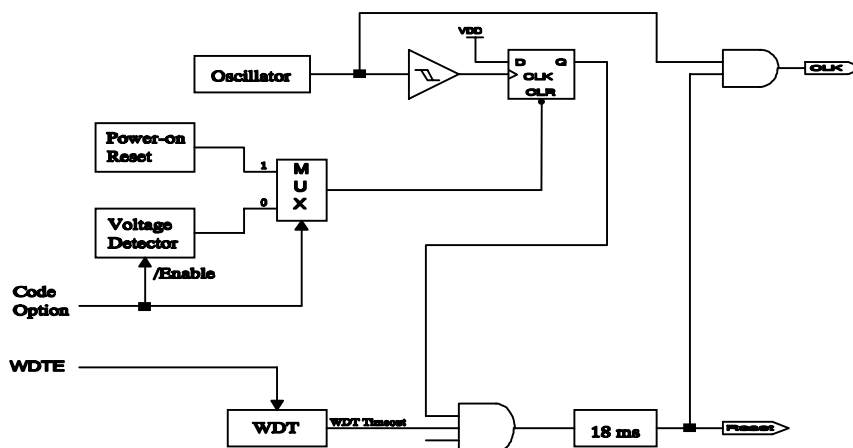

Fig.12 Block diagram of Reset of controller
- (1) Power on reset, or Voltage detector
- (2) WDT timeout. (if enabled and in GREEN or NORMAL mode)
Note that only Power on reset, or only Voltage detector in Case(1) is enabled in the system by CODE Option bit. If Voltage detector is disabled, Power on reset is selected in Case (1). Refer to Fig. 12.